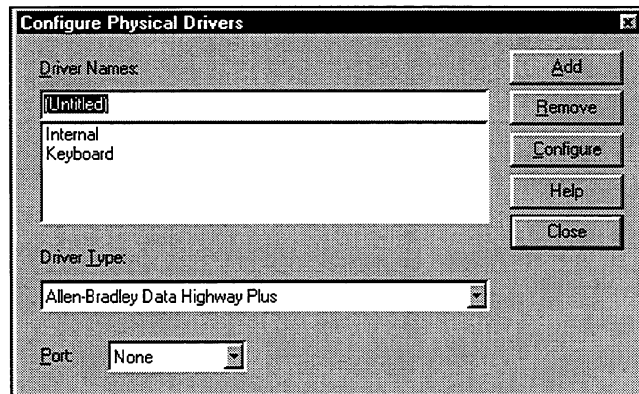
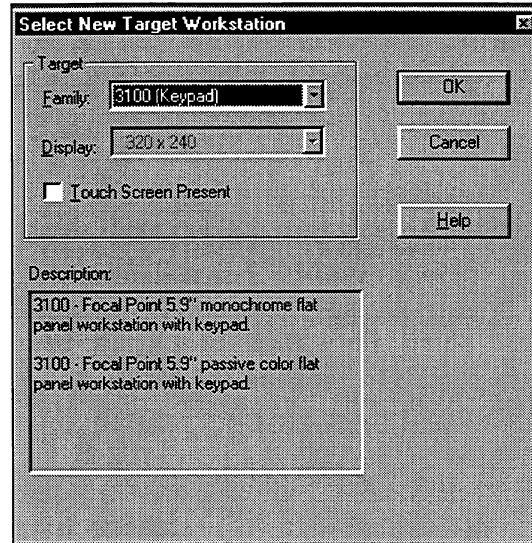

Figure 5-11. Configure Physical Drivers Dialog Box
Figure 5-12. Select New Target Workstation Dialog Box
1. Select the Print tab on the bottom of the Alarm form (Figure 5-11) to access the Print alarm settings page, as shown in Figure 5-12.
- Select the Drivers command on the Configure menu in the Application Navigator or click on the Drivers button. The Configure Physical Drivers dialog box opens, as shown in Figure 5-11.
After you respond to this message, the Select New Target Workstation dialog box opens, as shown in Figure 5-12.